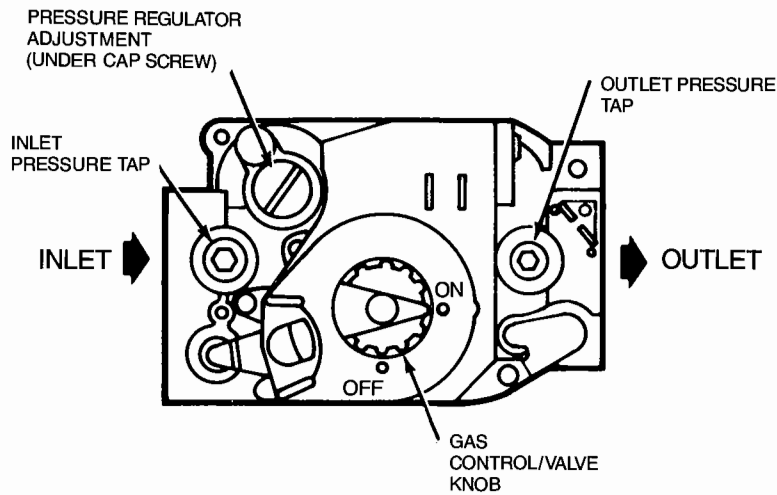
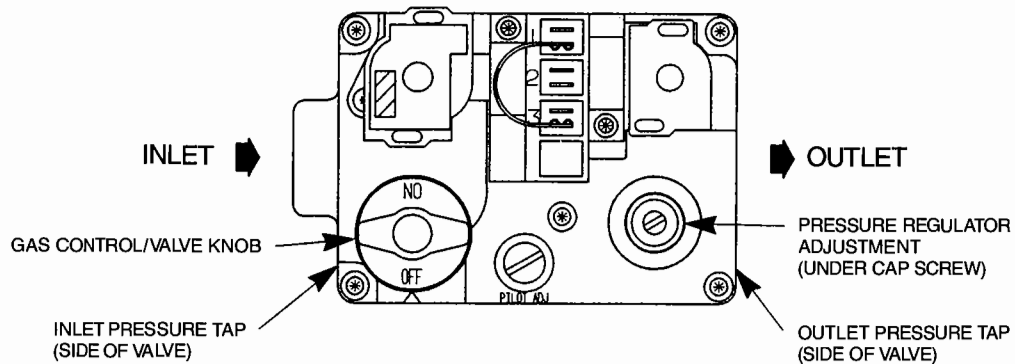
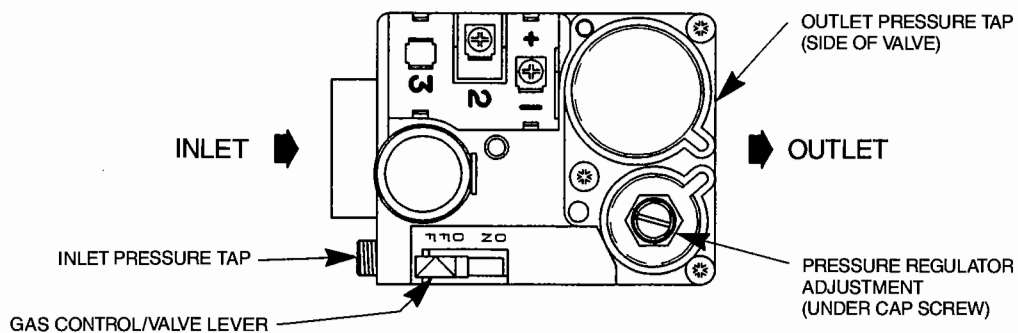

**FIG. 11A — HONEYWELL
**FIG. 11B — WHITE RODGERS
**FIG. 11C — ROBERTSHAW (GRAYSON)
6. Turn the gas control valve knob clockwise to the "Off" position for either the White Rodgers 36-E gas valve (Fig. 11B) or the Honeywell VR-8205 gas valve (Fig. 11A). For the Robertshaw 7200 gas valve, push in and slide the lever to the "Off" position (Fig. 11C). Do not force.
8. If you smell gas following the 5 minute waiting period in Step 7, follow the instructions on the cover of this manual. If you do not smell gas, then turn the gas control knob counterclockwise to the "On" position for either the White Rodgers 36-E gas valve (Fig. 11B) or the Honeywell VR-8205 gas valve (Fig. 11A). For the Robertshaw 7200 gas valve, push in and slide the lever to the "On" position (Fig. 11C). Do not force.
A tapped opening is provided in the gas valve to facilitate measurement of the manifold pressure. ("Outlet Pressure Tap" in Figure 11A, 11B, or 11C.) A "U Tube" manometer having a scale range from 0 to 12 inches of water should be
3. Turn the gas control knob clockwise  to the "Off" position for either the White Rodgers 36-E gas valve (Fig. 11B) or the Honeywell VR-8205 gas valve (Fig. 11A). For the Robertshaw 7200 gas valve, push in and slide the lever to the "Off" position (Fig. 11C). Do not force.